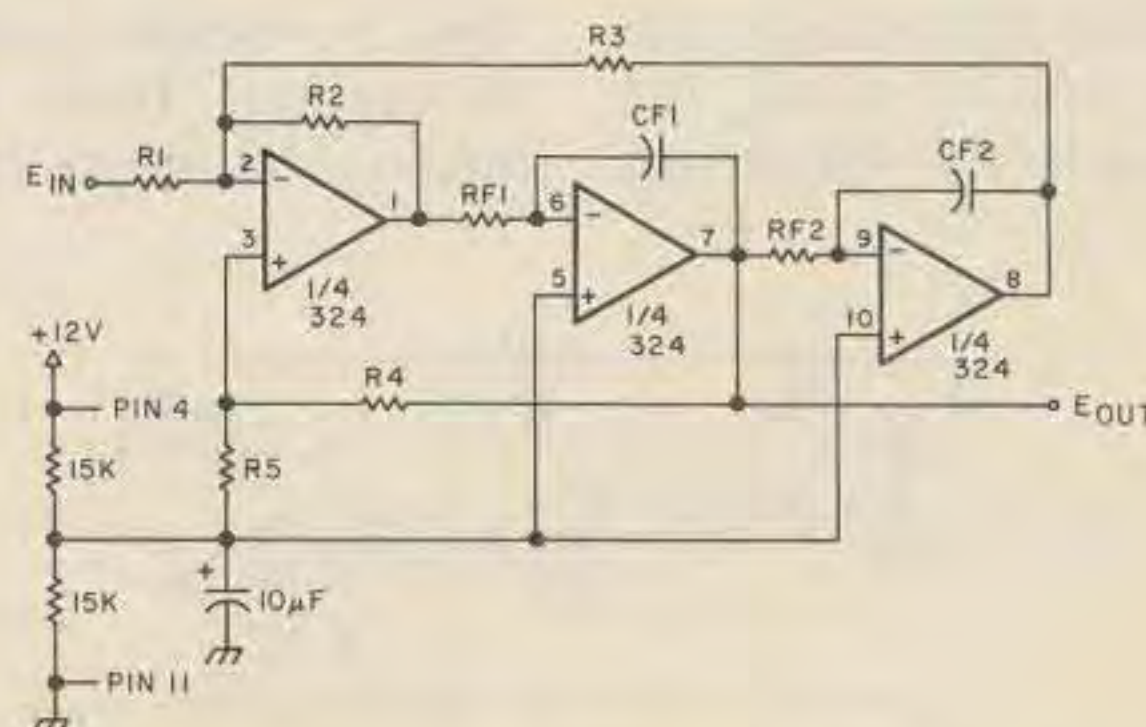

Fig. 7. Setting up the 324 for filter design.
**Step 3.** Choose a power supply. In this example, we have chosen a single 12-volt source. This forces us to provide a voltage divider to feed the positive input lines that we would directly ground if we used a dual supply. Fig. 7 shows the basic configuration of our circuit, with the 324 pins and power connections drawn in.